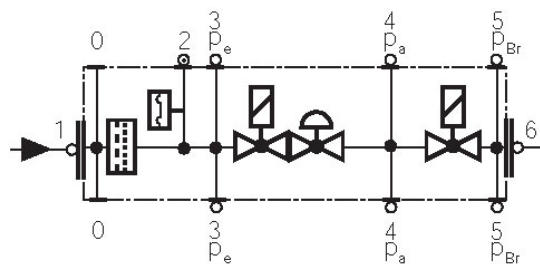

Fig. 28
- Change the filter if the pressure difference between pressure connection 1 and 2 (Fig. 28-Fig. 29) $\Delta p > 10$ mbar.
- Change the filter if the pressure difference between pressure connection 1 and 2 (Fig. 28-Fig. 29) is twice as high compared to the last check.